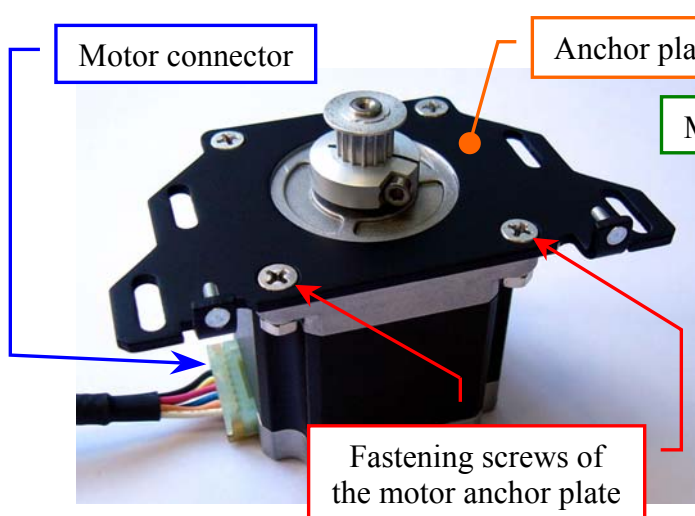

Fig. 110 – Reactions Plate Motor anchor plate
6. Unscrew the four fastening screws of the Reactions Plate Motor anchor plate (**Fig. 110**) and take out the anchor plate from the motor.
10. Position the anchor plate on the upper plane of the new motor as showed in **Fig. 110** and screw its four fastening screws.